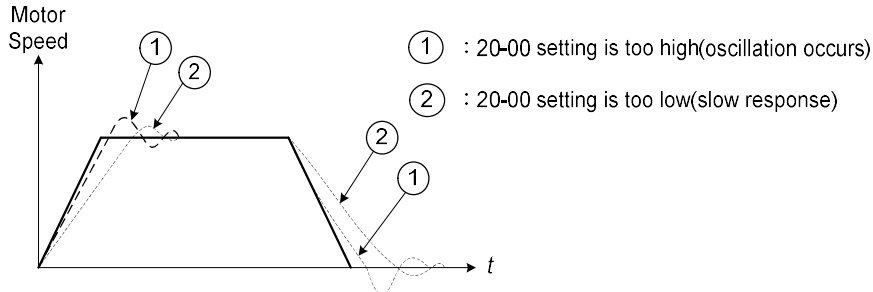

Figure 4.3.153 System Response of ASR Proportional Gain
(2) Gain settings in SV and PMSV modes
(3) Speed control gain adjustment
- During gain adjustment, multi-function analog output terminals (AO1 and AO2) can be used to monitor output frequency and motor speed (see Figure 4.3.153).